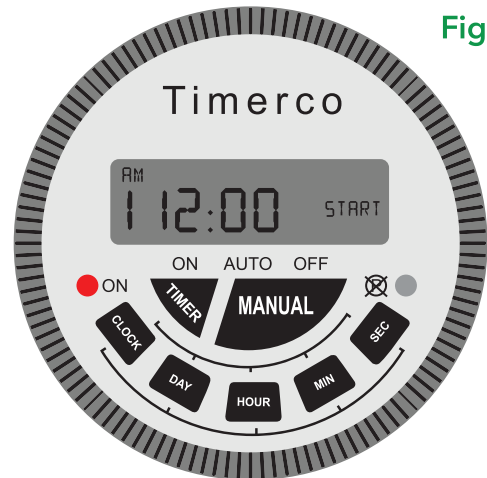

Figure 1
- Press the **TIMER** button until you see the number 1 on the left side of the screen, and the word **START** on the right side of the screen. (See Figure 1)